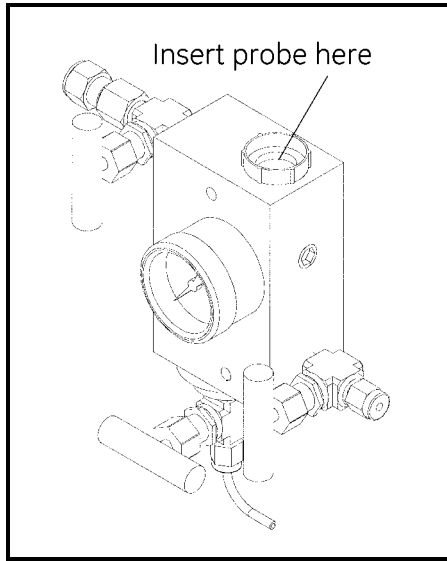

Figure 10: Probe Fitting Location
1. Screw the probe into the receptacle fitting, making sure not to cross thread it (see Figure 10). Install moisture probes with different fittings in the appropriate manner.